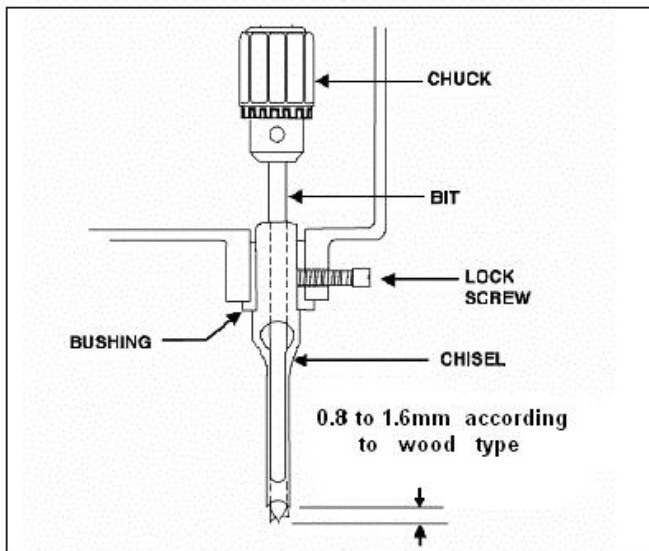

Fig. 6
1. Loosen lock screw, shown in Figure 6.